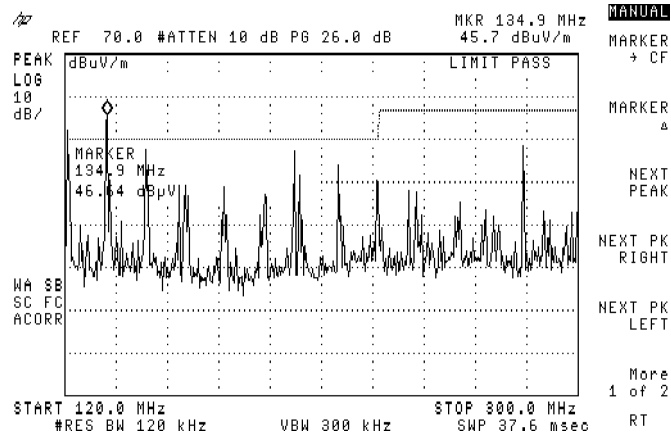

Figure 3-59. Using Peak Search
3. Press the **PEAK SEARCH** front-panel key. See Figure 3-59.